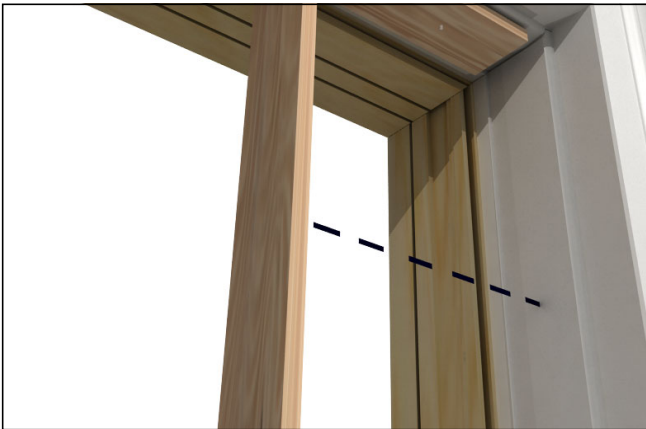

Figure 3
3. Depending upon placement of the insert unit; install filler strips on both jambs and head jamb of the existing frame. See figure 3.